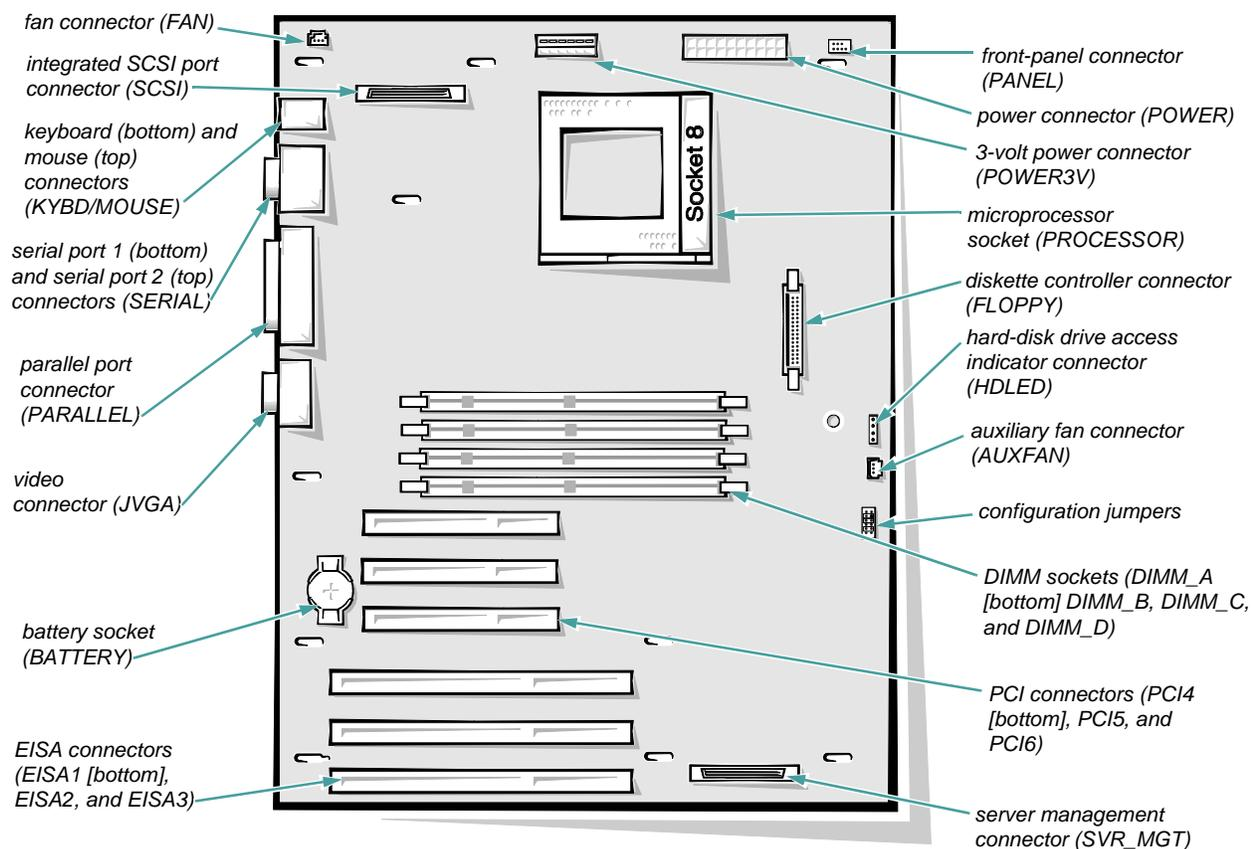
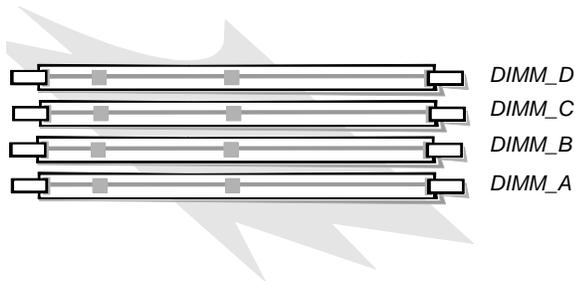

Figure 7-1. System Board Features
Figure 7-5. DIMMs and DIMM Sockets
See Figure 7-1 to identify the following connectors on the system board. Disconnect the following cables (if any) connected to them:
Use Figure 7-1 to locate the system board features.
All directions presented in the procedures in this chapter are as viewed from a position facing the front of the computer. Use Figure 7-1 to locate items on the system board.
The four DIMM sockets (shown in Figure 7-5) on the system board can accommodate 16 to 512 megabytes (MB) of dynamic random-access memory (DRAM). The PowerEdge 2100 systems use 72-bit, buffered, extended data output (EDO) DIMMs in these 168-pin sockets. Error checking and correction (ECC) is performed by the memory controller in the system board chip set. Figure 7-1 shows the location of the DIMM sockets on the system board.
Starting with the socket nearest the system board's PCI expansion-card connectors and working toward the center of the system board, the sockets are labeled "DIMM_A" through "DIMM_D" (Figure 7-5).